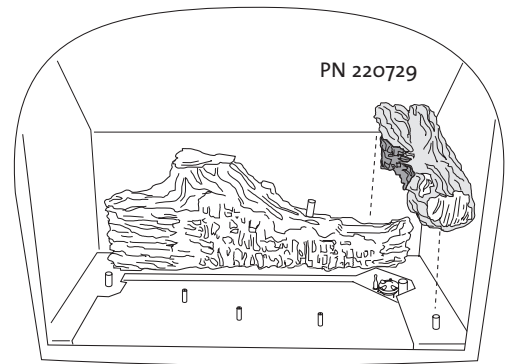

Figure 11. Install right log
2. Locate the right log to overlap the rear log and engage with the peg as in fig. 11.